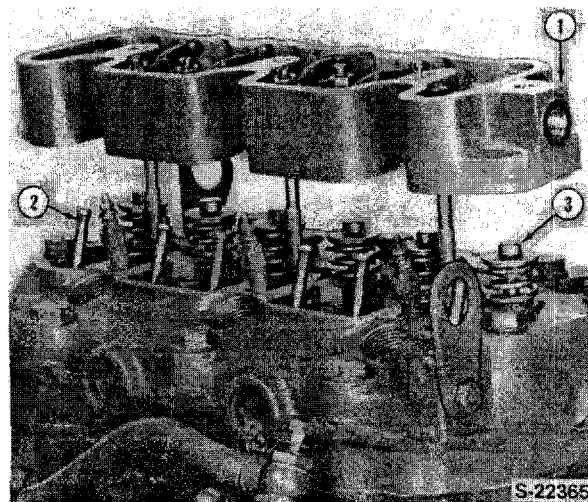

Figure 11
4. Remove the rocker shaft support assembly, Figure 11.